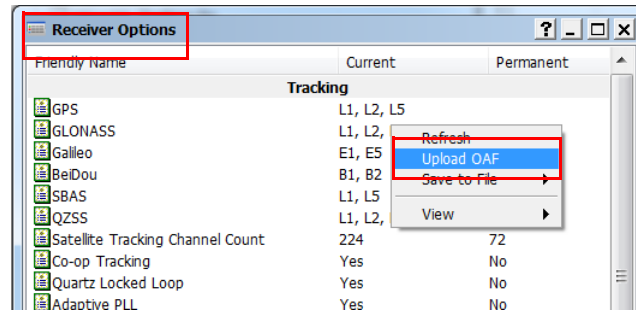

Figure 5-6: Right-click and Select Upload OAF
- Right-click on the **Receiver Options** window, and select **Upload OAF** (Figure 5-6).